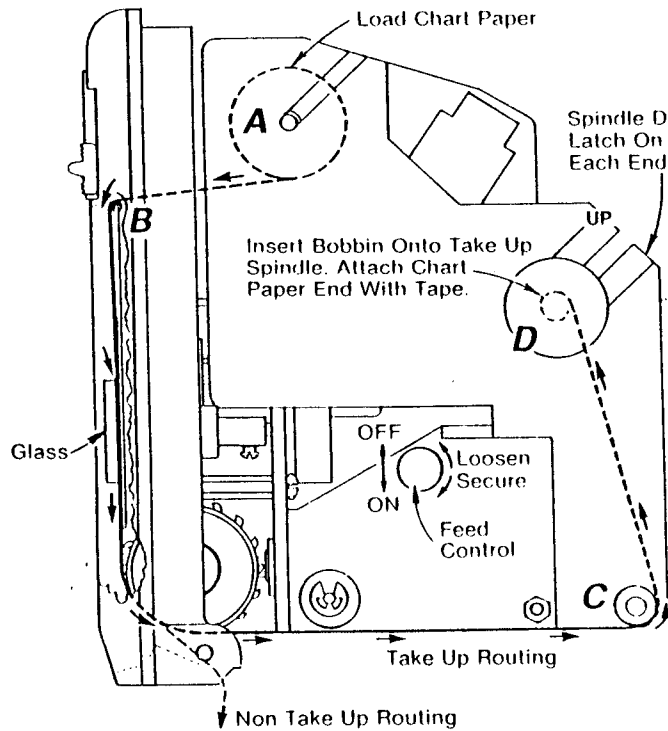

Fig. 9
3. To insert or remove chart paper, place recorder in horizontal position and press the release button in the direction shown in fig. 10. Raise the recorder mechanism to a vertical position until it locks. Remove feed shaft A (see fig. 9) and place chart roll on spindle. Remove tape on roll and retain tape for securing chart on take-up spindle D. Unroll about 12" to 15" and route paper over top edge of scale plate B underneath glass, over the sprocket wheels, to the rear and over the idle roller C up to the cardboard bobbin mounted on take-up spindle D. Secure edge of chart to bobbin with tape. Make sure the sprocket holes in the paper engage the sprocket wheels. Be sure that feed control is tight and in the right position. The word "on" must be visible. Press in the idle roller extension C to allow the recording mechanism to move back down into case and lock into position. Replace cover by positioning the "U" bend onto the plastic projections and snap front down. Make sure chart paper is not binding with the cover in place. For "non-take-up" recording, route chart through bottom slot as shown in fig. 9.